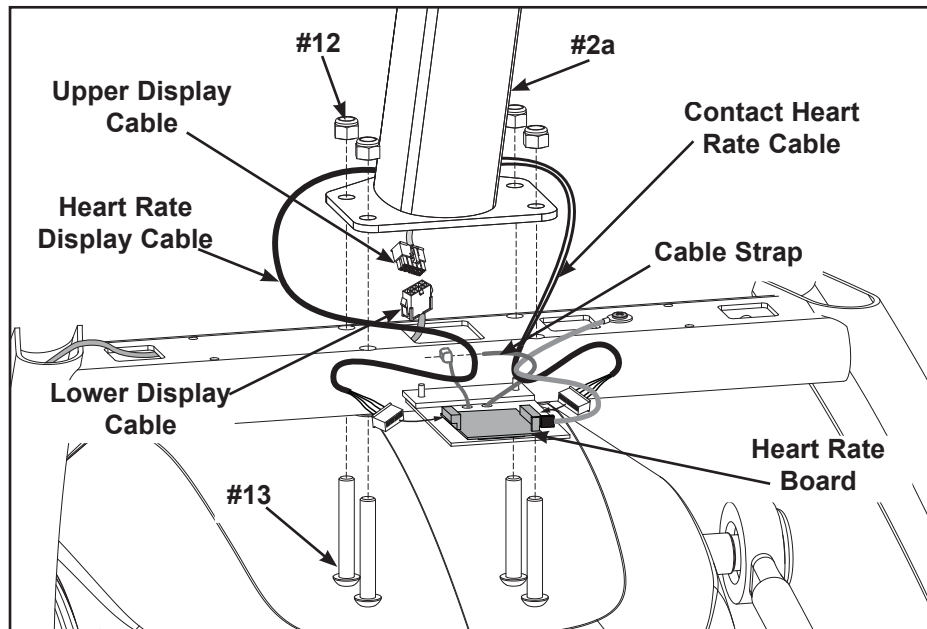

Figure 5 (750A)
- A. Locate the upper display cable and plug into the lower display cable. See Figure 5.
- B. Locate the contact heart rate cable and plug into heart rate board. See Figure 5.
NOTE: Ensure cable connectors are securely fastened. Tighten cable strap. See Figure 5.
- A. Locate four nylon locknuts (#12) and four BHSCS .375-16 x 2.25 (#13). See Figure 5.
- C. Insert (from underneath) the four BHSCS .375-16 x 2.25 (#13). Hand thread the four .375-16 nylon locknuts (#12) in position. See Figure 5. Do not tighten at this point.